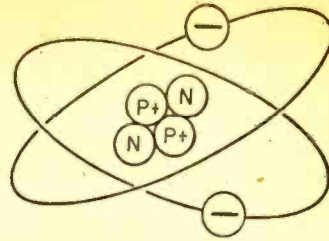

Fig. 2. Charge of each electron balances that of a proton. Other particles affect atomic mass but can be ignored in study of electronics.
**From Minus to Plus.** With the discovery of the electron, it was still over a dozen years into the 20th century before a graphic conception of the atom evolved. Since the atom is electrically neutral and electrons are negatively charged, the existence of positively charged particles was a necessity, and the existence of a *proton* was postulated. Eventually the nuclear model of the atom was evolved. Each atom was conceived to resemble a solar system in miniature. The nucleus—positively charged—is surrounded by a number of electrons revolving around it; the charges balance and the atom is electrically neutral (Fig. 2). Further research in the 20th century has gone on to reveal more elementary particles than you can shake a